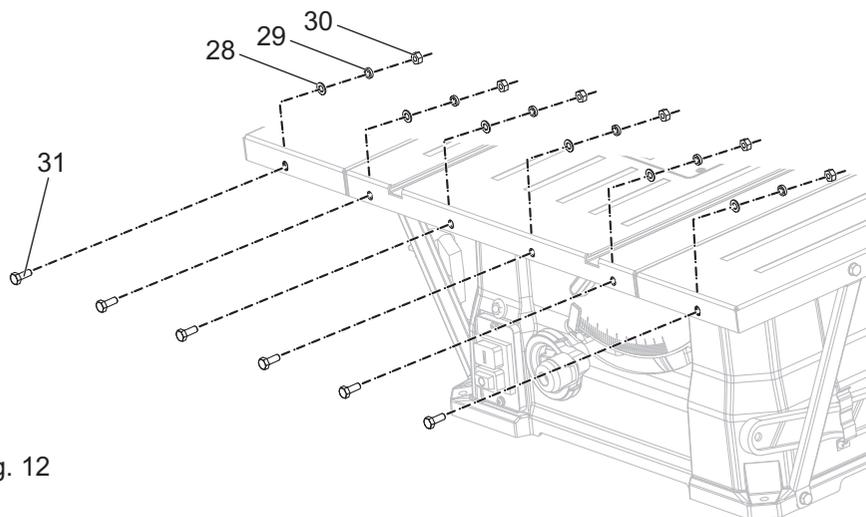

Fig. 12
- > Insert the hex bolts M6 x 16 [31] through the holes on the working table, left and right extension tables, then put the flat washers 6 [28], spring washers 6 [29] and loosely tighten on the hex nuts M6 [30] as shown in the Fig. 12.